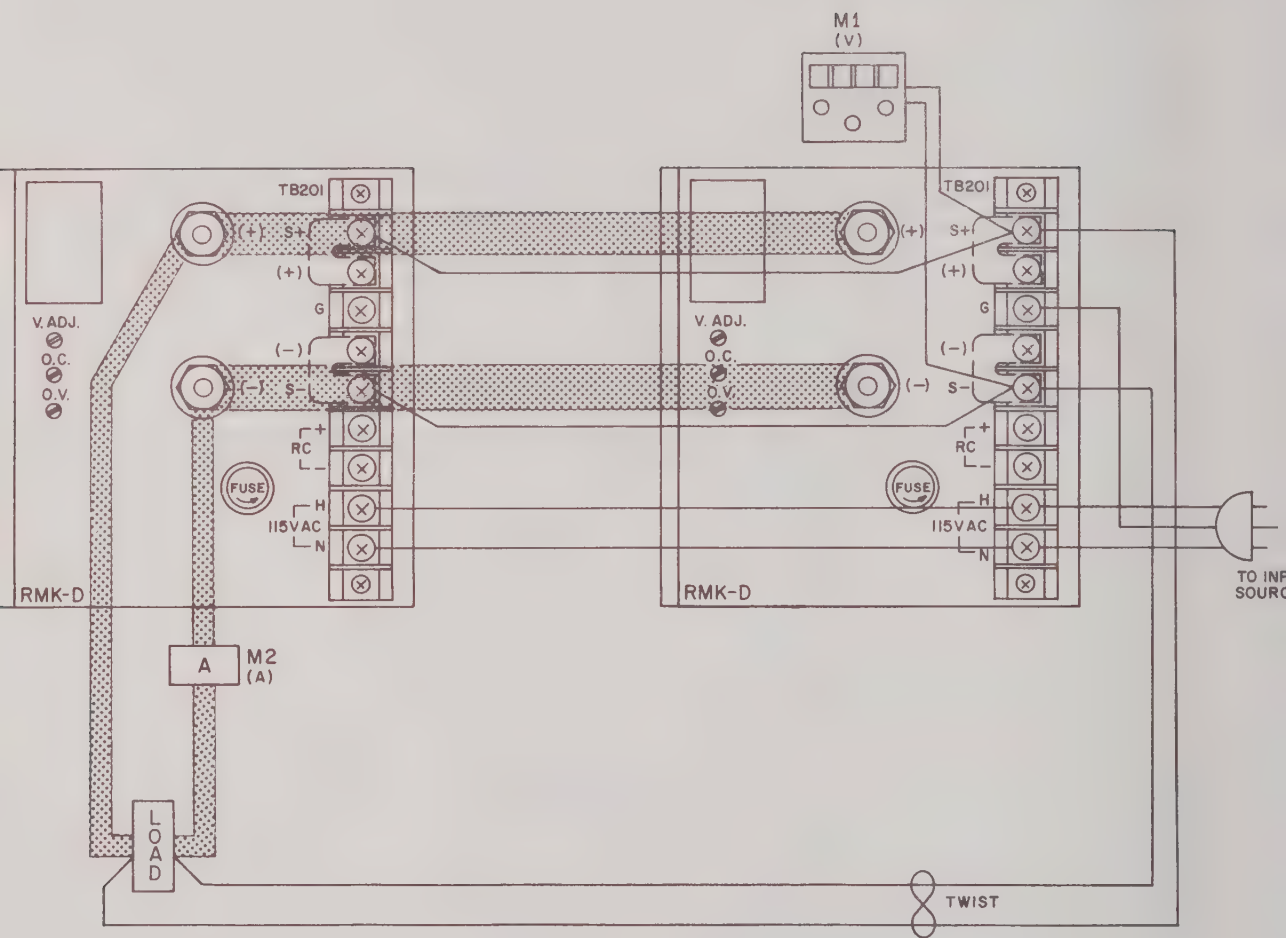

FIG. 3-5 PARALLEL CONNECTION OF TWO POWER SUPPLIES, WITH ERROR SENSING AT THE LOAD
STEP 1) Connect RMK power supplies, instrumentation and load, as shown in FIG. 3-5.
STEP 2) Turn power supply system "on" and monitor load voltage and current as indicated in FIG. 3-5.
NOTE: For parallel connections of two or more power supplies, the load leads should be as heavy and as short as possible. It is recommended, that short, heavy buss-bars are used and that the supplies are kept physically close together, as indicated in FIG. 3-5.
3-30 Three recessed, screwdriver adjustable controls have been provided on the RMK power supply. They are located to the side of the barrier strip and are clearly marked on each RMK model as follows; (Refer to FIG. 3-5, for example):